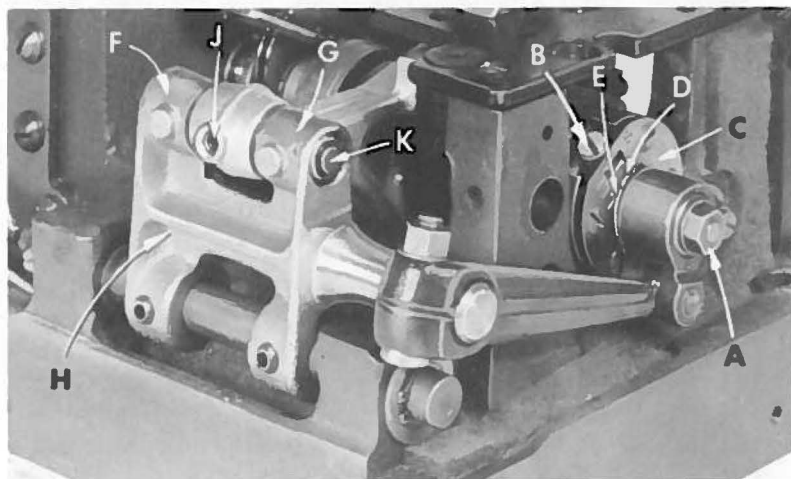

Fig. 13
Set the stitch to required length. This is accomplished by loosening the locknut (A, Fig. 13) 1/2 turn (it has a left hand thread) on the end of the stitch regulating stud and turning the stitch adjusting screw (B) located under the left end of the cloth plate, in the head of the main shaft (C), which is marked with "L" and "S". Turning the screw clockwise shortens the stitch (moves stitch regulating stud toward the "S") and turning it in a counterclockwise direction lengthens the stitch (moves stitch regulating stud toward the "L"). Retighten the locknut securely. To
The needle bearings (F & G, Fig. 13) in the feed rocker (H) should be checked and lubricated once a year. This can be accomplished as follows. Loosen allen screw (J, Fig. 13) and remove shaft (K) Now, repack bearings.
When packing bearings, the parts must be clean and grease should be applied directly from the tube to avoid contamination. Tube of grease can be supplied under the part number 28604 P. Greased bearings are located at (F & G, Fig. 13). If grease sealed bearings are replaced they should be pressed in flush with the casting. To assemble, start tapered end of shafts first, twisting slightly when entering the grease seals to prevent damage.